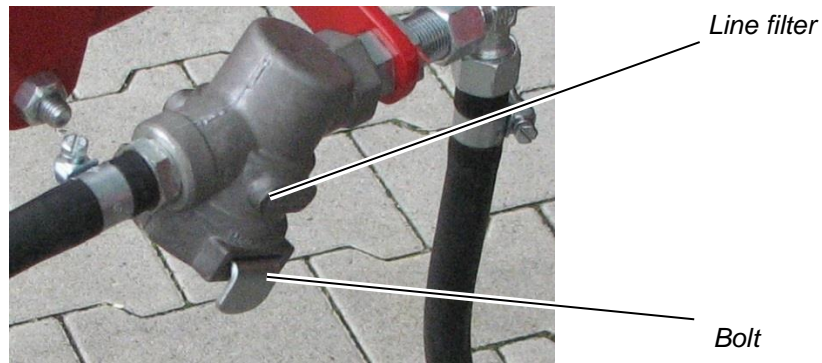

Figure 58: Line filter
- ⇒ Place one hand under the line filter (see Figure 58).
- ⇒ With your other hand, pull the bolt out from the line filter (see Figure 58).